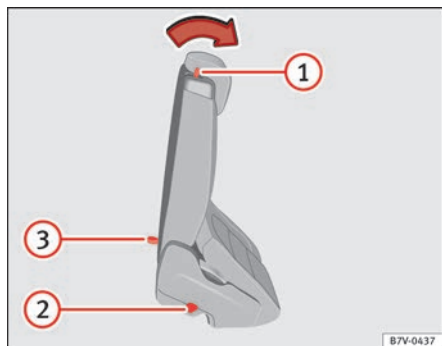

Fig. 81 Second row of seats: convenient entry function controls.
- Remove any objects located in the floor area of the second row of seats, where applicable ⇒ ①.
- Push the lever ⇒ fig. 81 ① forwards and fold the backrest of the rear seat. The seat can still be moved forwards when rear seat is folded completely forwards ⇒ ⚠.